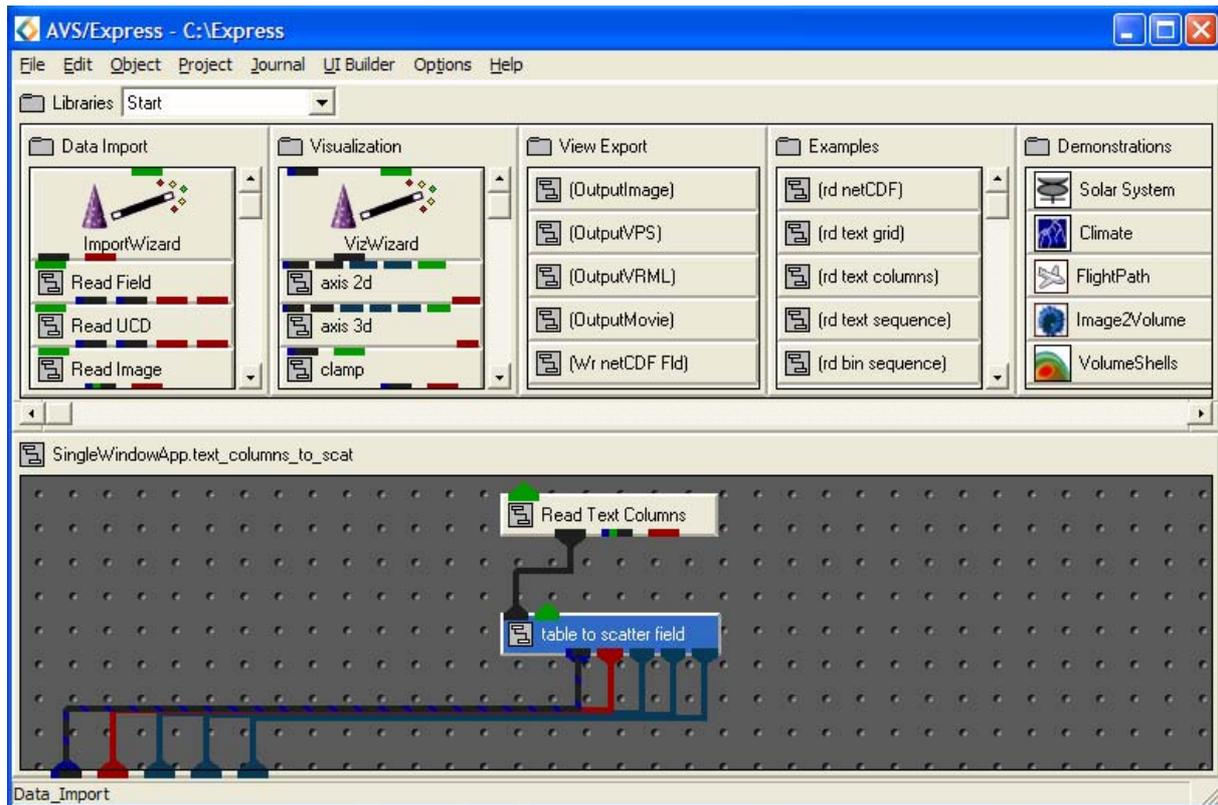

Figure C.29: text\_columns\_to\_scatter Macro
- Double click the macro to show its network in the Network Editor as seen in Figure C.29